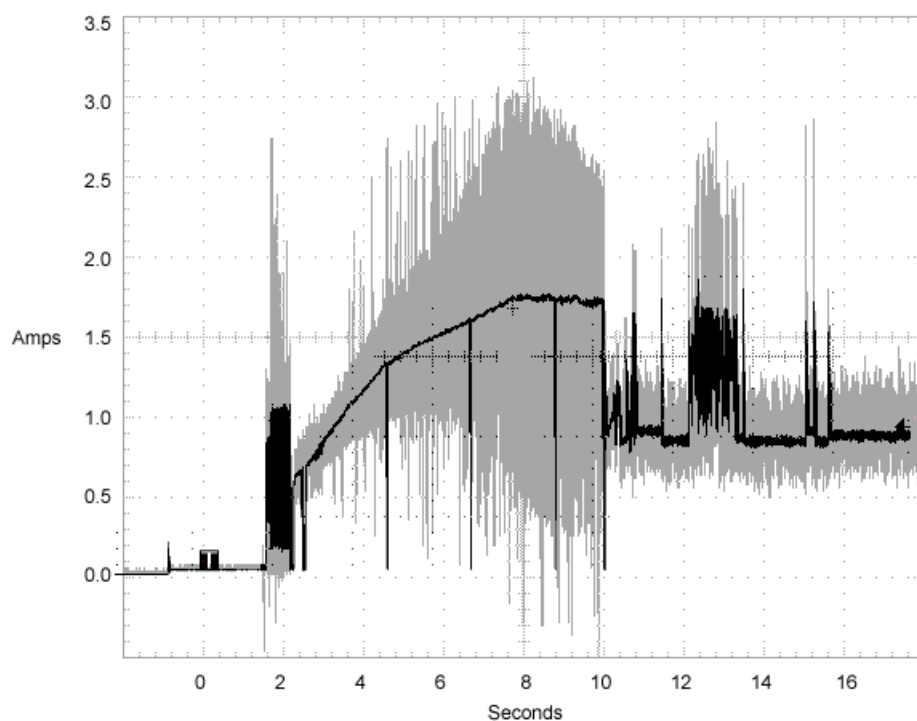

Figure 1. Typical ST3300655FC drive, 4 Gbit, +12V current profile
- [3] See +12V current profile in Figure 1.